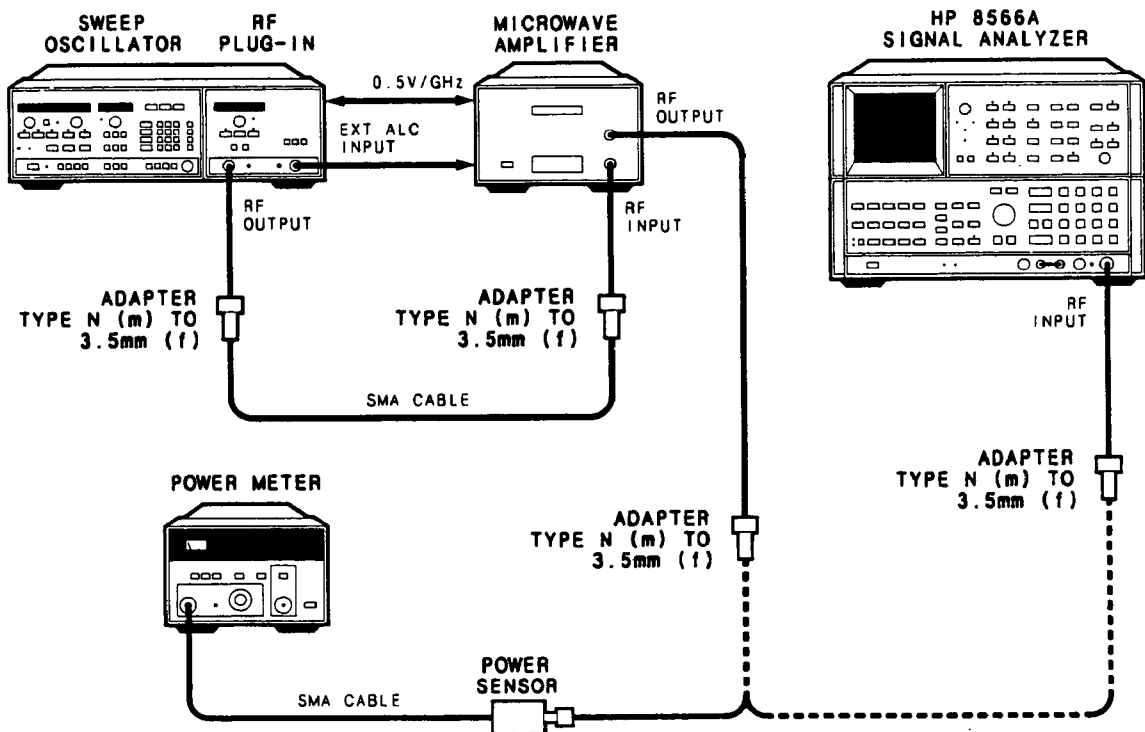

Figure 4-5. Spectral Purity Test Setup
1. Switch the equipment off and then connect it as shown in Figure 4-5 with the HP 8349B's RF OUTPUT connected to the spectrum analyzer.